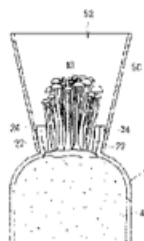

Fig. 1: Growth guide attached to a cultivation bottle
Figure 1 illustrates a pointed member (15) for piercing a ground covering.
Figure 1 illustrates an apparatus for precipitation of water for rainfall enhancement in water-stressed regions.
Devices for guiding the fruiting body, or carpophore, of a mushroom during growth, e.g. to obtain a desired form (illustration in Fig.1).